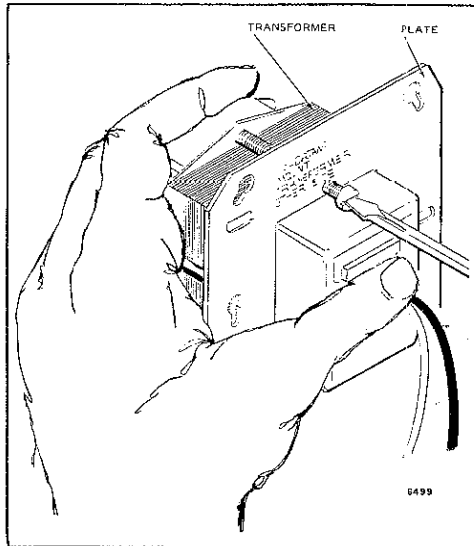

Fig. 5—Secure plate to transformer with mounting screw.
5. Insert mounting screw through holes as illustrated in Fig. 5. Secure plate to transformer. Do not overtighten screw.